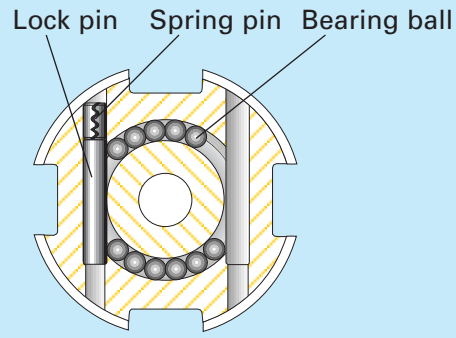

Fig. 1
3. Insert a lock pin into one of the holes for the locking system (Fig. 1).